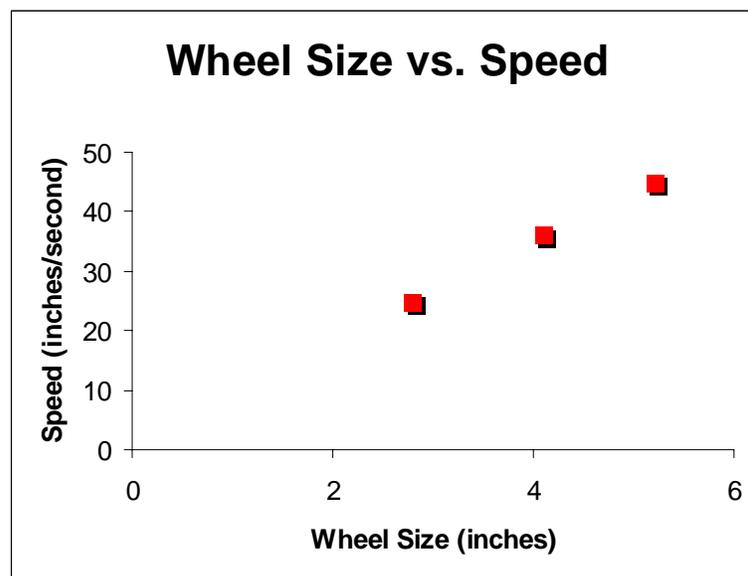

Figure 1: Typical Data from the Basic Investigation
13. Why did the robots reach different speeds in Figure 1?
No, it won't always reach this exact speed; see "Systematic and Random Errors" for the various reasons. In addition, interpolation depends on the quality of the data. If the data are not lined up well, as in the Interpolation plot above, then predictions may not be as reliable as those for a plot like Figure 1, in which the data are closely lined up.